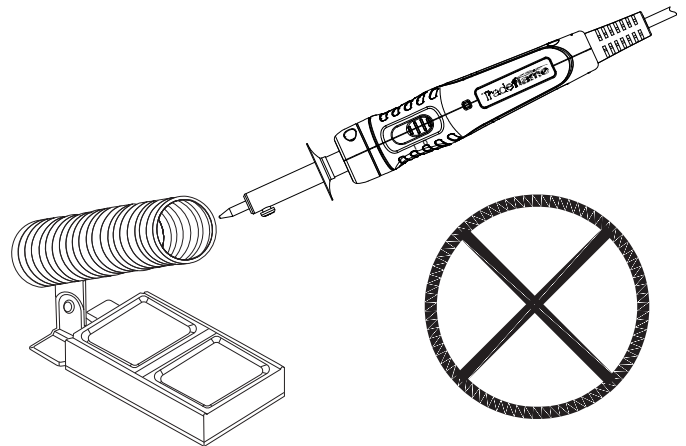

Fig. 3 - Do not place in coil holder
- Do not place Soldering Iron in coil stand (Fig. 3).